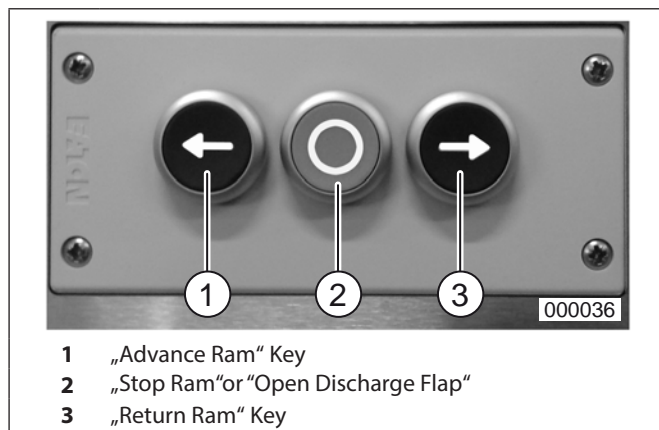

fig. 13 Operating elements baler
The discharge flap can only be opened after this key (fig. 13/2) has been activated.
Non-confidential materials can also be fed manually to the baler. Return the baling ram to its rear, home position if necessary (close the inlet flap and press the "Return Ram" key (fig. 13/3)) and proceed as follows:
3. Close the inlet flap and activate the „Advance Ram“ Key (fig. 13/1).